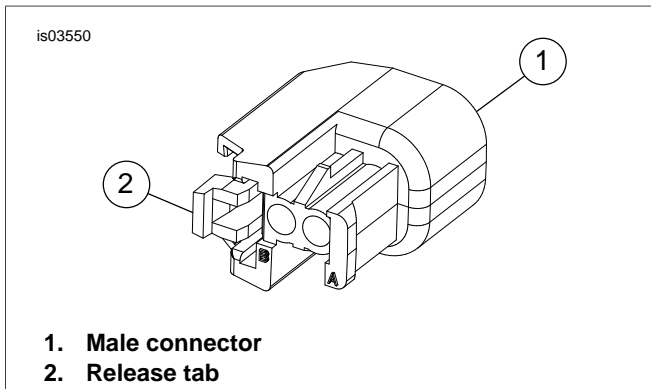

Figure 2. Connector With One Release Tab
- b. See Figure 2. *Kit 32136-06A*, press gray release tab to remove connector.